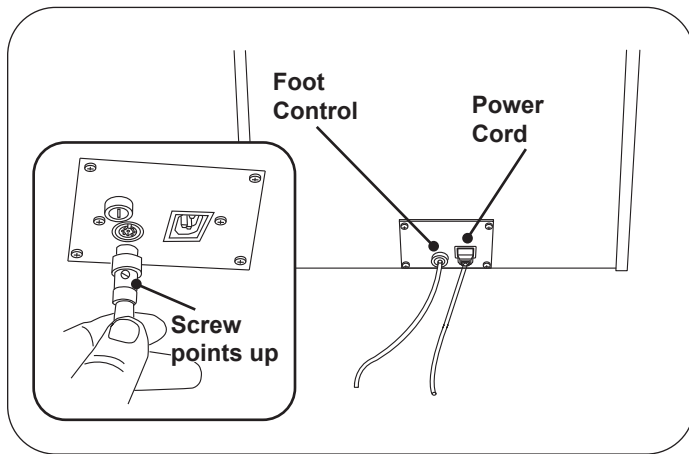

Figure 26. Power Cord and Foot Control Plug-ins
2. Insert the female plug end of the power cord into the receptacle on the table (Figure 26). Make sure the plug is fully seated.
1. Insert the male plug of the foot control cord into the receptacle on the table (Figure 26). Make sure the pins are properly oriented and the plug is fully seated.